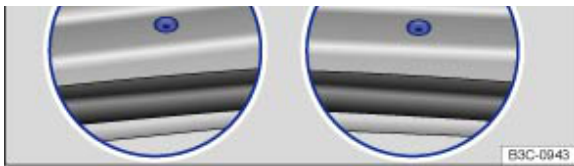

Fig. 112 Attachment points for the mounts
The attaching holes are on the underside of the roof bracing. They are visible only when the door is open → Fig. 112.
- **The mounts may only be attached at the markings shown in the illustration** → Fig. 112.